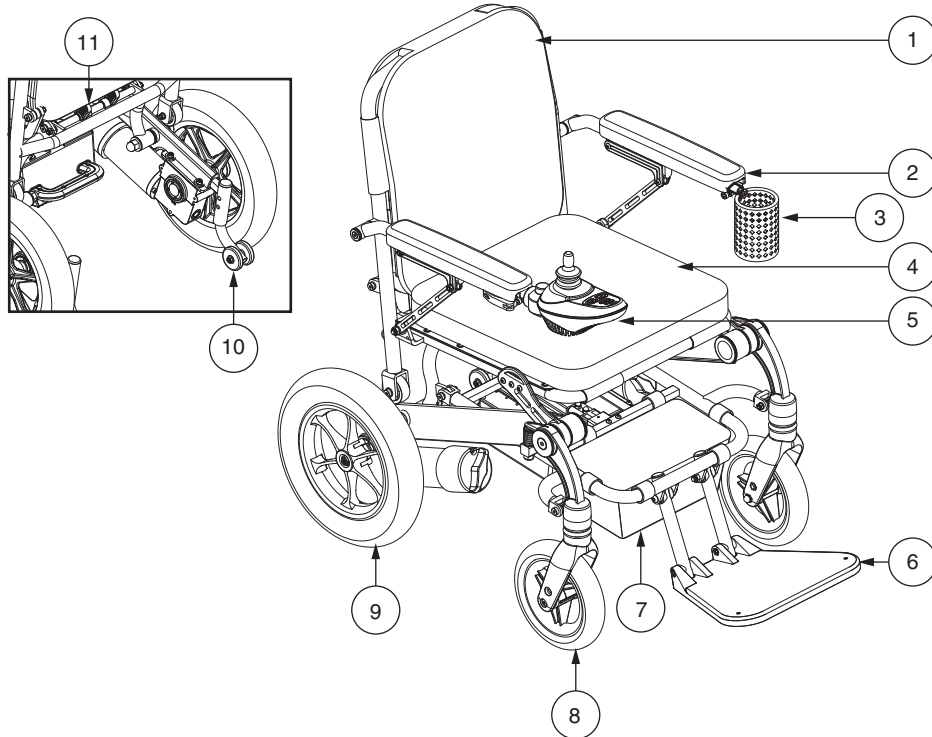

Figure 1. The Jazzy® Passport
The Jazzy® Passport is a power chair that you can easily fold for transportation or storage. The battery box slides into the rear of the power base. **See figures 1 and 2** for power chair components.
2. Standing at the rear of the chair, locate the locking mechanism. **See figure 1.**
1. Standing at the rear of the chair, locate the locking mechanism. **See figure 1.**